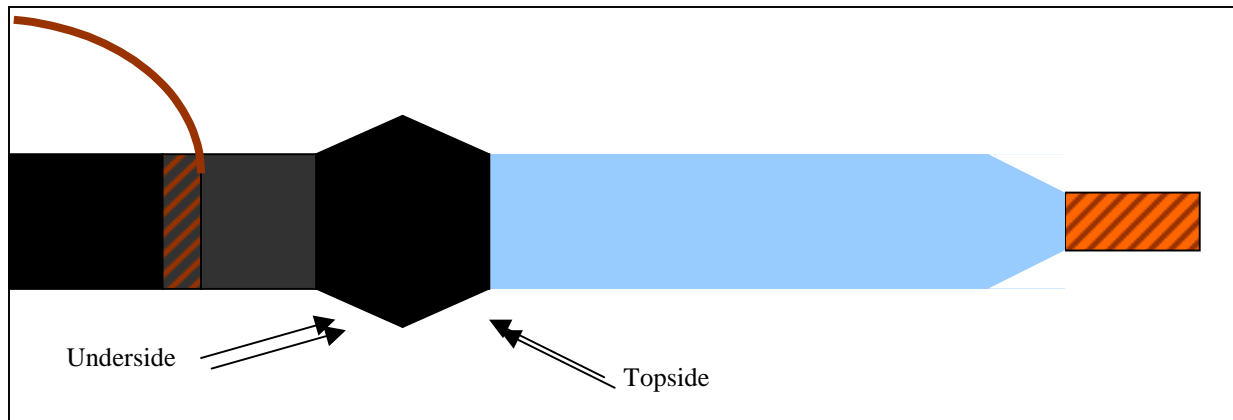

Figure 2, Cable with Stress-Cone
- Start taping, with #130 high voltage rubber tape, two inches above the semi-conductive layer on the insulation of the cable using a highly elongated half lapped layering technique, this will be the middle of the stress-cone. Build the stress-cone in a back and fourth taping action until you have built a cone that is four inches long and just touches the semi-conductive layer (Figure 2).